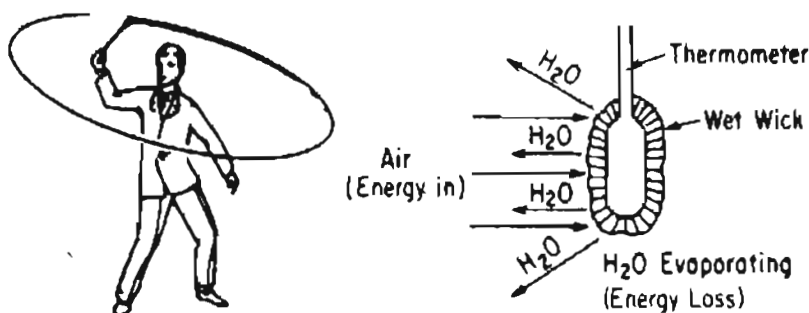

Figure 29.1 Web-bulb temperature obtained with a sling psychrometer.
- d. The **wet-bulb temperature** (T_{WB}) is something new. As you may guess, even though you may never have heard of this term before, it has something to do with water (or other liquid, if we are concerned not with humidity but with saturation) evaporating from around an ordinary mercury thermometer bulb. Suppose that you put a wick, or porous cotton cloth, on the mercury bulb of a thermometer and wet the wick. Next you either (1) whirl the thermometer in the air as in Figure 29.1 (this apparatus is called a sling psychrometer when a wet-bulb and a dry-bulb thermometer are both mounted together), or (2) set up a fan to blow rapidly on the bulb at a high linear velocity. What happens to the temperature recorded by the wet-bulb thermometer?